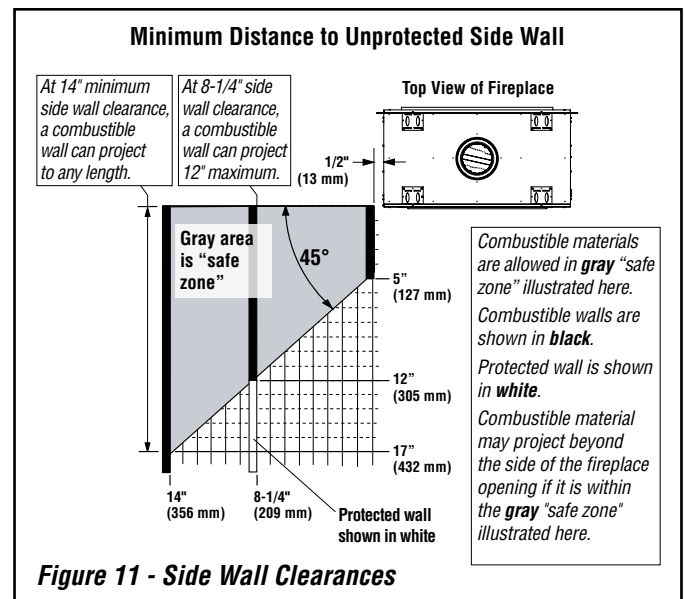

Figure 11 - Side Wall Clearances
- Combustible material may project beyond the sides of the fireplace opening, as long as it is within the shaded area shown in **Figure 11 on Page 14**.